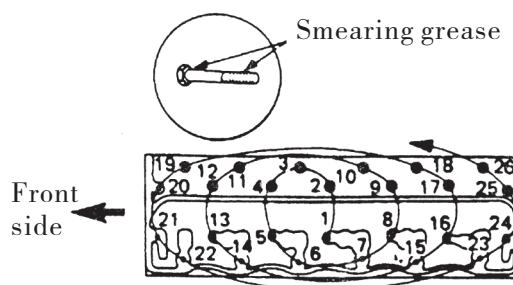

Fig. 1.10
(1) Tighten the cylinder head bolts one by one with 68 Nm moment according to the order shown in Fig. 1.10.